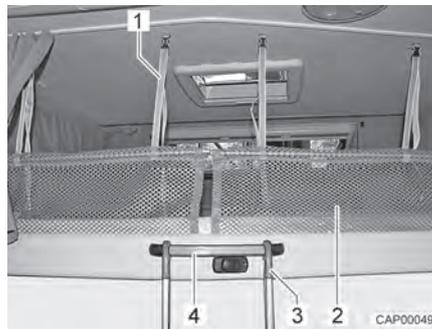

Fig. 77 Access ladder and safety net
- Hook the access ladder (Fig. 77,3) to the pull-down bed by attaching the two hooks to the curved handle (Fig. 77,4).
The safety nets (Fig. 77,2) with the retaining straps are stored under the mattress. Only use the safety nets if persons are already in the pull-down bed.
- Fasten the retaining straps (Fig. 77,1) to the holders on the ceiling.